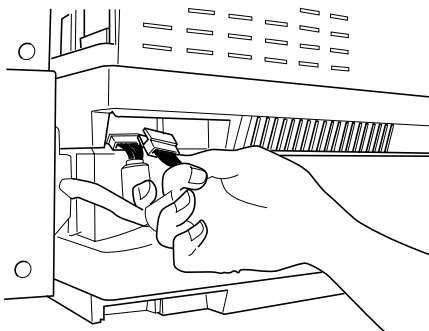
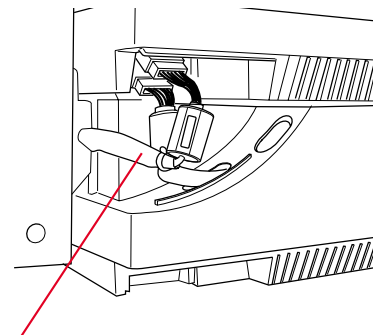

Fig. 3-47
Fig. 3-48
7. Connect the interface connectors between the DPU and the printer (see Fig. 3-47 and Fig. 3-48).